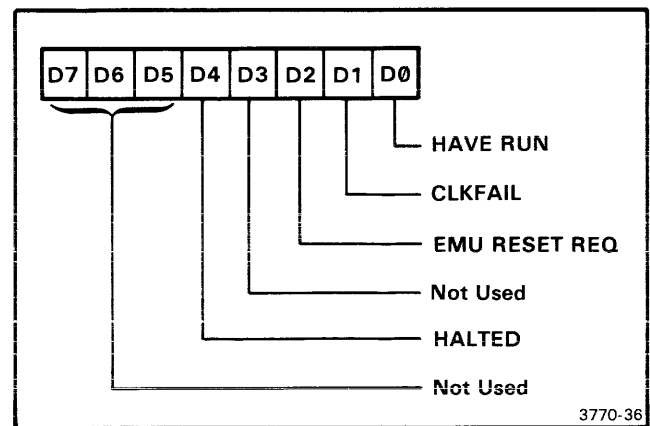
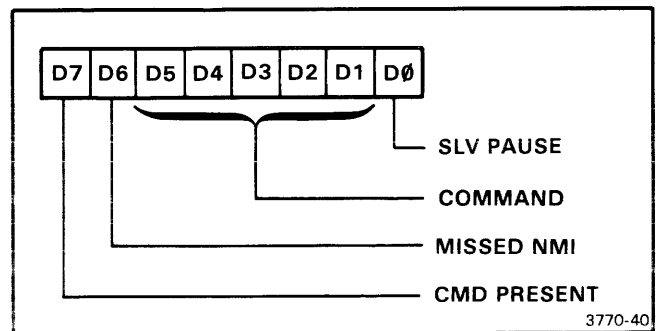

Fig. 4-14. EMU Status Port.
Fig.4-15. Command Port.
The Microprocessor reset is required whenever the emulation mode changes or the 68000 microprocessor halts. The EMU Status Port bit D2 (refer to Fig. 4-14) indicates whether an Emulator reset (D2=1) or a Microprocessor reset (D2=0) is required. When a Microprocessor reset is performed:
3. The 2650 writes a Register Restore command to D1-D5 in the Command Port (see Fig.4-15). The 2650 then polls the Command Port until the 68000 microprocessor has finished executing the Register Restore command. Bits D1 and D4 in the EMU Status Port (Fig. 4-14) are checked to see if there has been an Emulator Processor fault.
4. The 68000 responds to the Register Restore command by building a new control stack in the Trapstack (the upper four words in the Shared Communication RAM; refer back to Table 4-8). The 68000 builds the Trapstack by using the desired Supervisor Stack Pointer (SSP) 67FE, and by stacking the Program Counter (PC) to equal 100 and the Status Register (SR) to 2700 in the Trapstack.